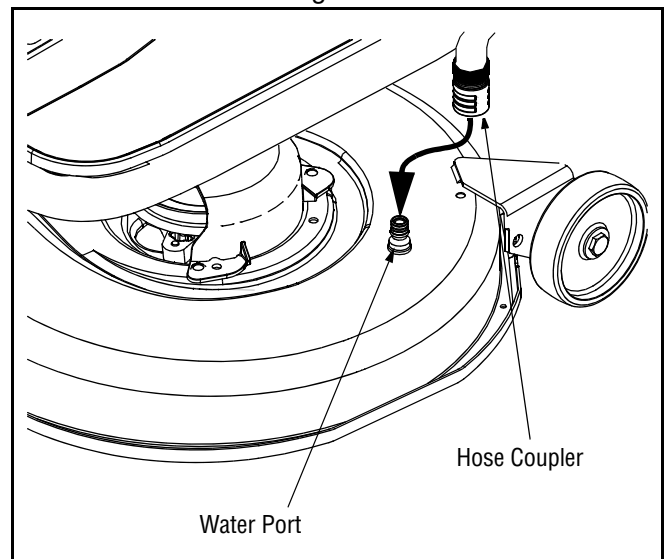

Figure 19
4. Attach the hose coupler to the water port on your decks surface. See Figure 19.